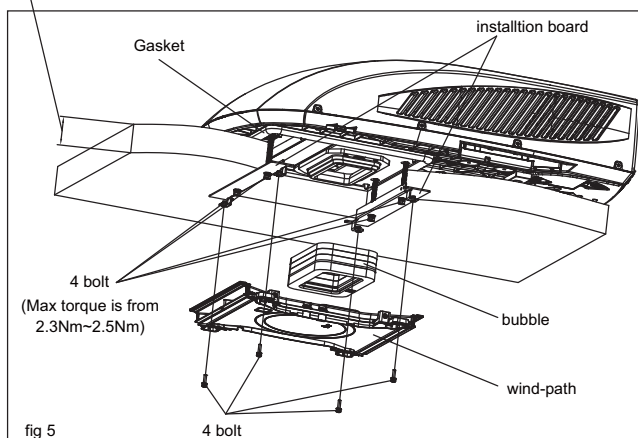

fig 5
4. Then carry the outdoor unit to the vehicle's top and align with the openings on the vehicle's top. Use 2 sets of mounting plate assembly and 4 screw bolts to mount the outdoor unit (See fig. 5).
6. Install the foam assembly on the air duct assembly. Use 4 screw bolts to fix the air duct assembly onto the mounting plate. After connecting the outdoor unit with indoor unit, check whether the foam assembly has come loose (See fig.5).